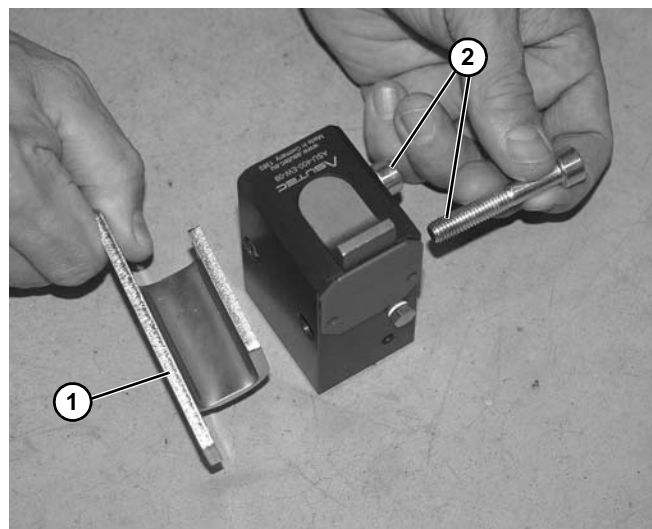

Figure 8
2. Install the bracket (**Figure 8, item 1**) and the two screws (**Figure 8, item 2**) on the opposite side of the pallet stop.